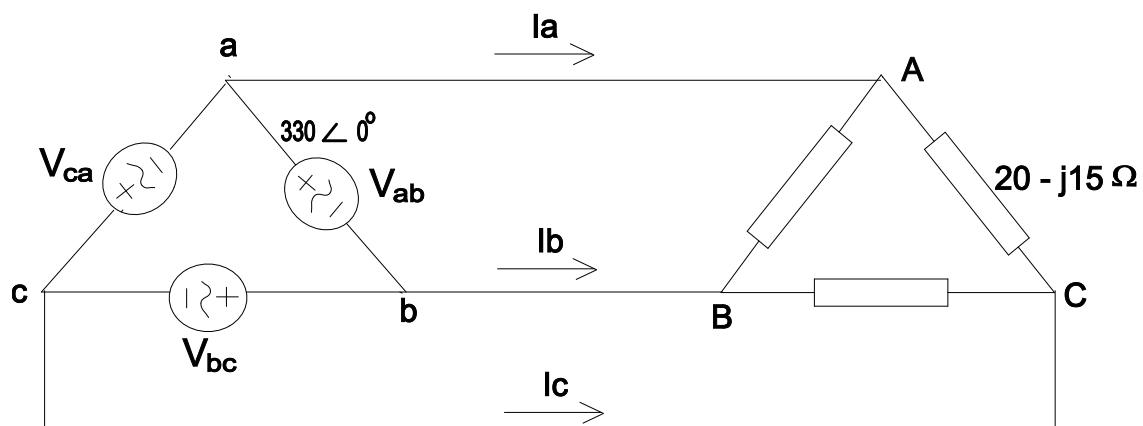

Figure 3
- a. A balanced Delta (Δ) - connected load with an impedance of $20 - j15 \Omega$ is supplied by a delta (Δ) connected, positive sequence generator with a line voltage $V_{ab} = 330\angle 0^\circ \text{ V}$ as shown in Figure 3 below. Calculate: